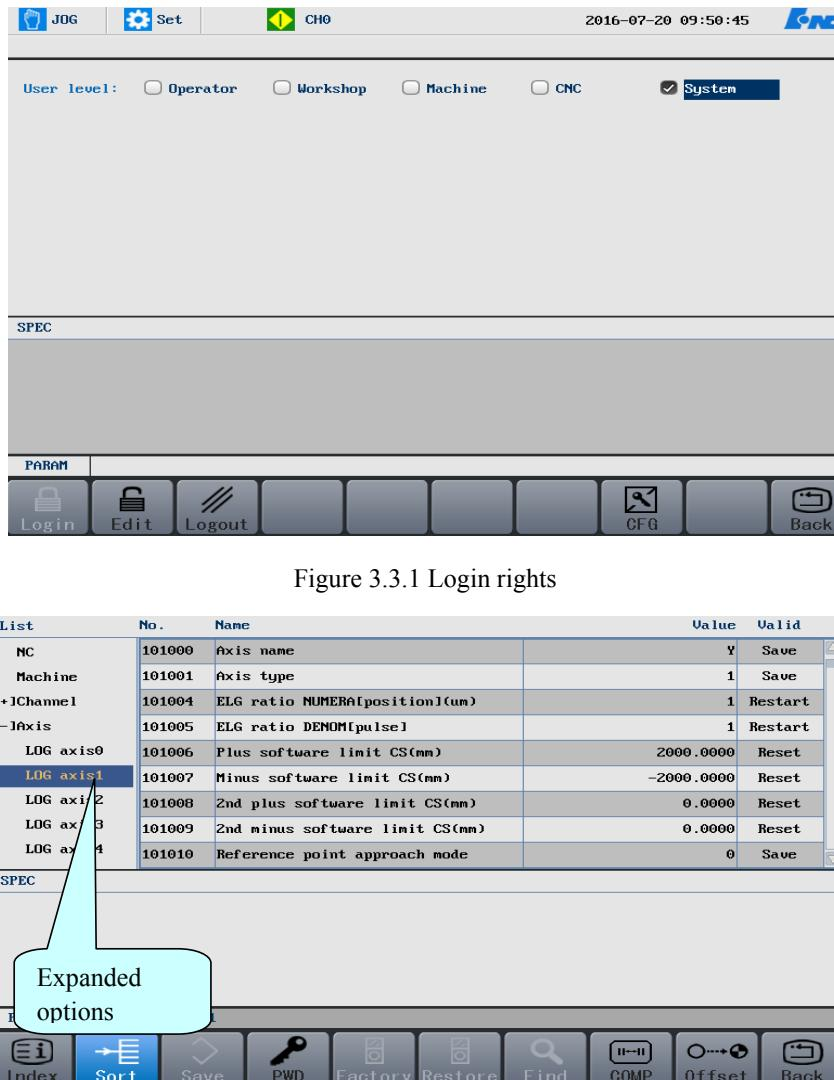

Figure 3.3.1 Login rights
2. Use "**←**" or "**→**" to select a user level, press **Login**, enter the correct password, and then press **Enter**. If the symbol "**√**" is displayed next to the user, the user has successfully logged in. The system provides operation instructions on the interface. See Figure 3.3.1.